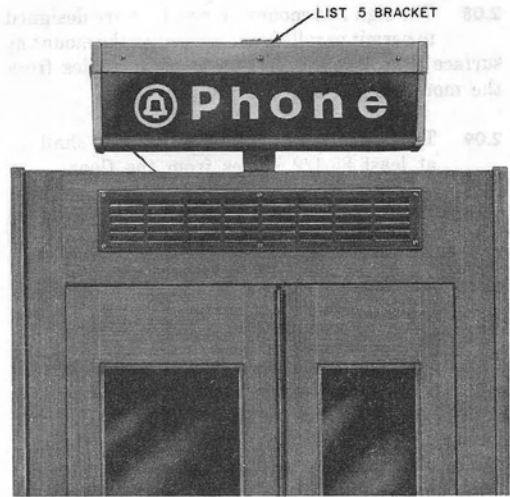
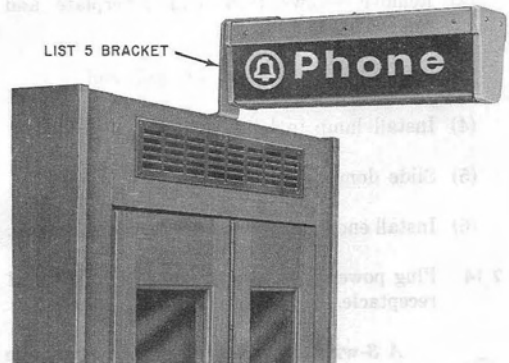

Fig. 9—Parallel Installation of KS-16422 Sign
Fig. 10—Projecting Installation of KS-16422 Sign
2.08 The sign and mounting brackets are designed to permit parallel mounting with the mounting surface (Fig. 9) or projection at right angles from the mounting surface (Fig. 10).